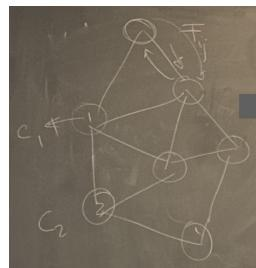

Figure 2.10: Simplified graph of a biochemical network.
- Suppose you have a (biochemical) network, and we control each transition between nodes locally (Figure 2.10).